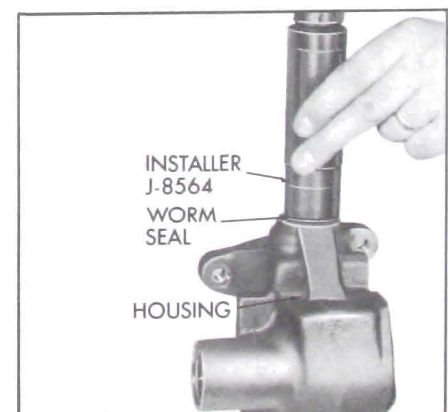

Figure 8-16—Installing Worm Shaft Seal
9. Install new worm shaft seal using Installer J-8564. See Figure 8-16. Drive seal flush with surface of housing.